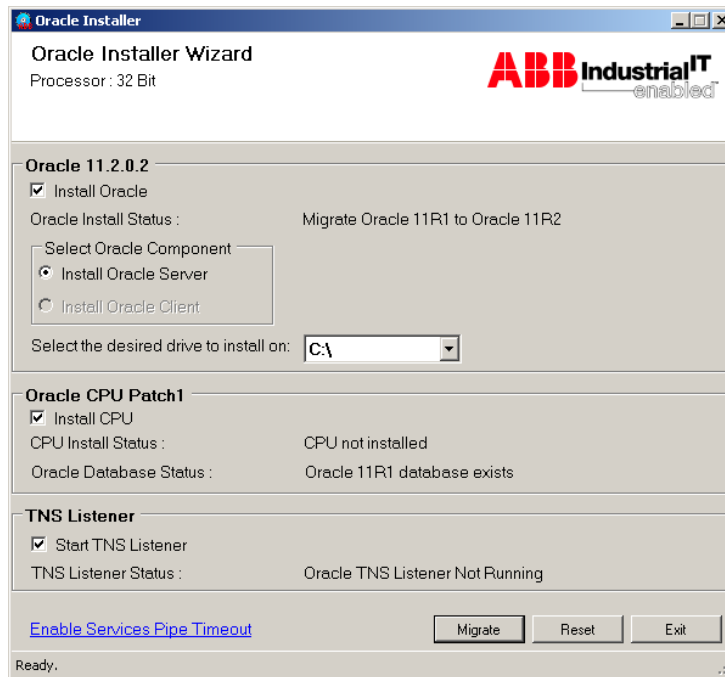

Figure 56. Oracle Installer Wizard
4. The Oracle Installer Wizard (Figure 56) containing the following components appears:
The Oracle Server, CPU, and TNS Listener are enabled for installation, by default. The status for the Oracle components is displayed as shown in Figure 56 for migrating Oracle 11gR1 to 11gR2.